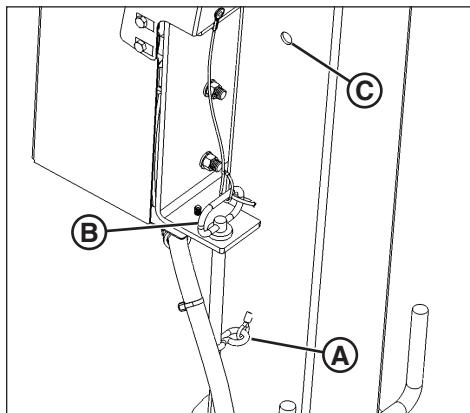

Figure 12
3. Remove the hair pin cotter (**A**, Figure 12) and tower mast locking pin (**B**) from the stowing hole shown in Figure 12. Insert the tower locking pin in the locking hole (**C**), and secure with the hair pin cotter.
2. Remove the hair pin cotter and tower locking pin from the hole in the tower. Place the tower locking pin in the stowing hole and secure with the hair pin cotter. See Figure 12.